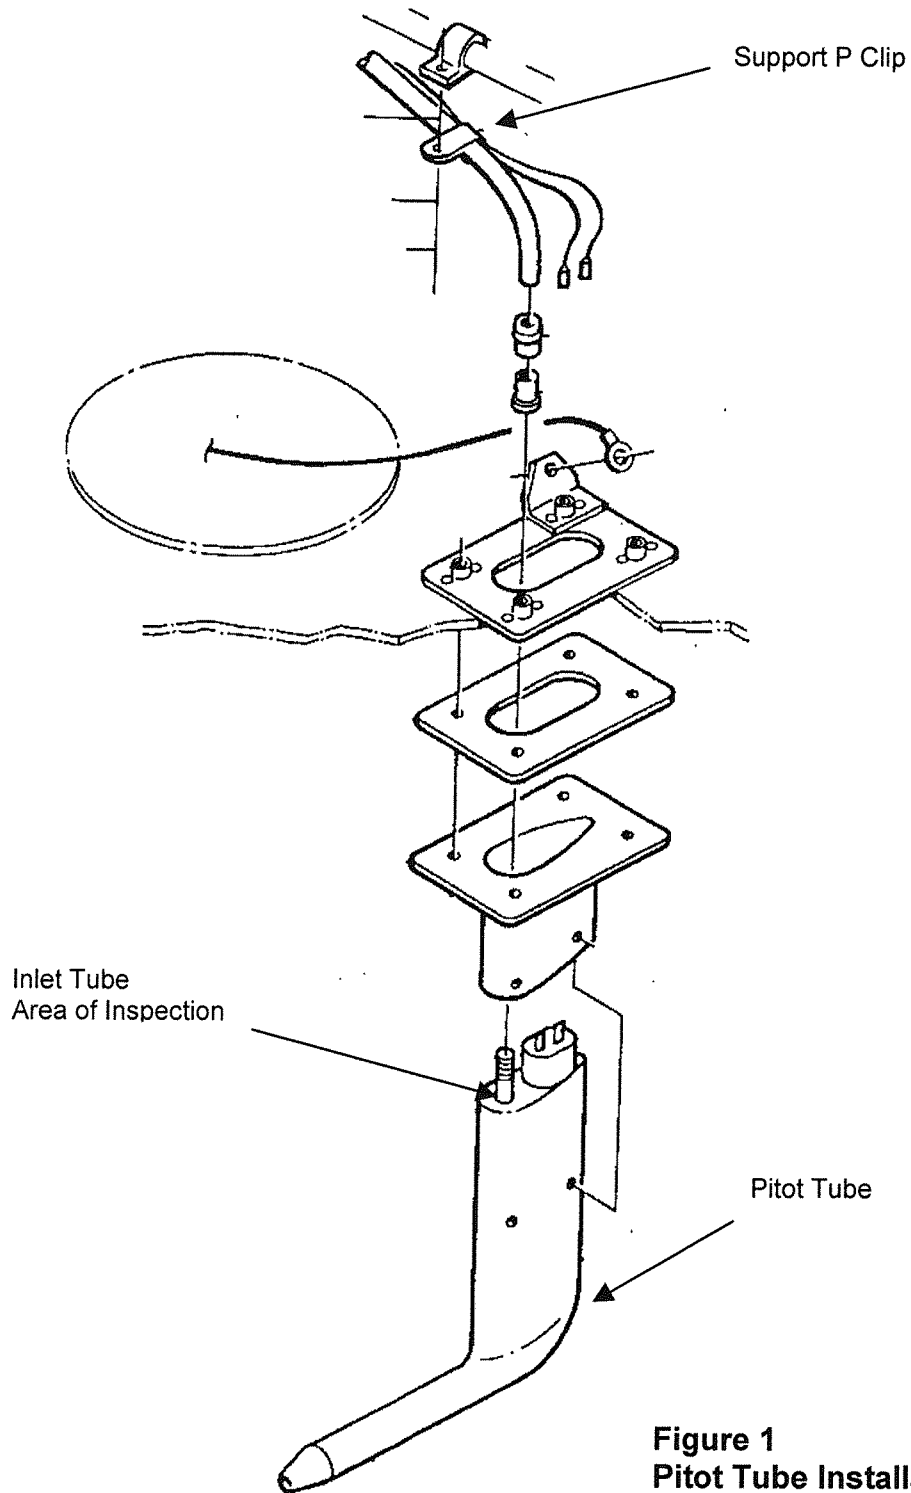

Figure 1
2. Perform visual check for cracks in the inlet tube in the area shown in Fig. 1.
5. Ensure pipe is properly supported (ref P-clip, Figure 1), and care is to be taken that inlet pipe is not stressed during installation and future maintenance. Note to this effect will be added to Maintenance Manual.